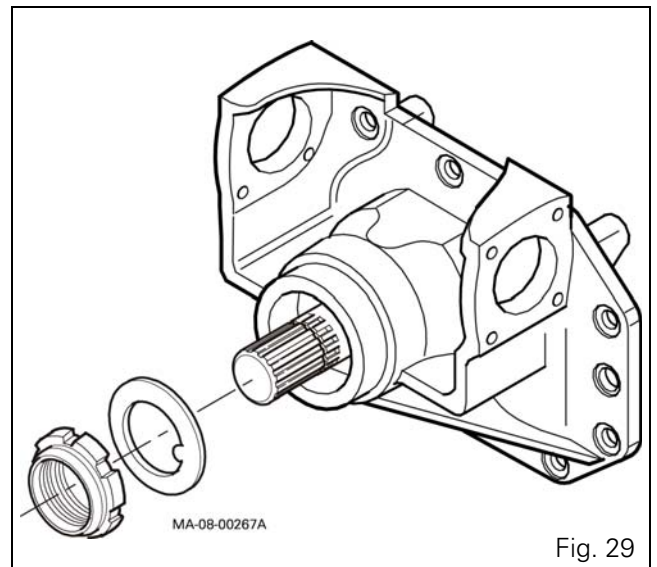

Fig. 29
**34.** Place a retaining washer and screw a new nut onto the end of the gear (Fig. 29).